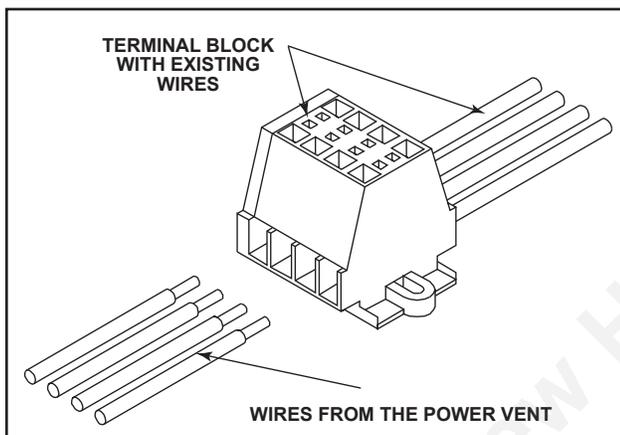

Figure 7.
**CAUTION: Carefully match the corresponding colored wires to the appropriate position on the terminal block. See Figure 7.**